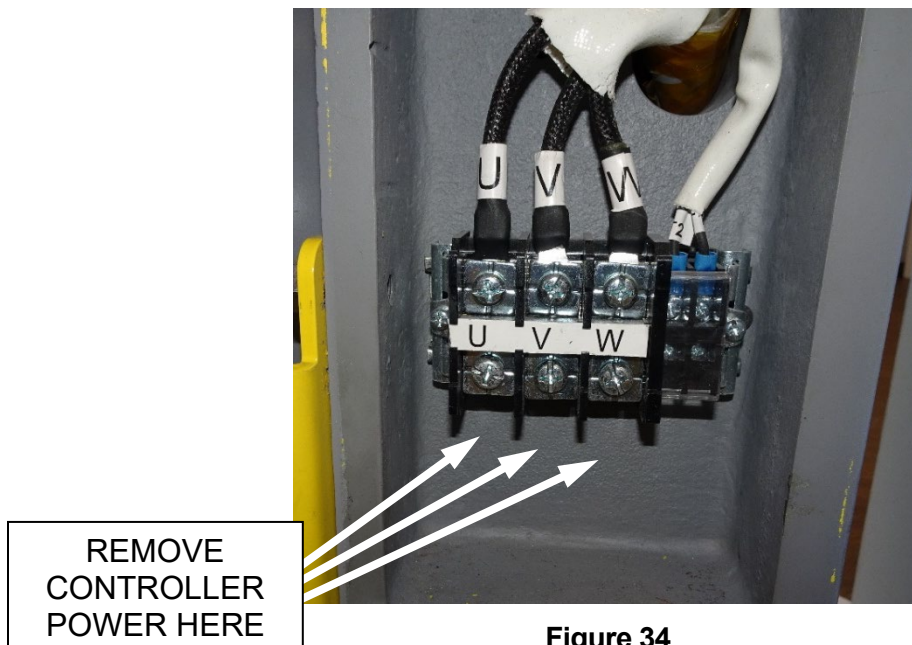

Figure 34
2. Disconnect Machine Power, see Figure 34.